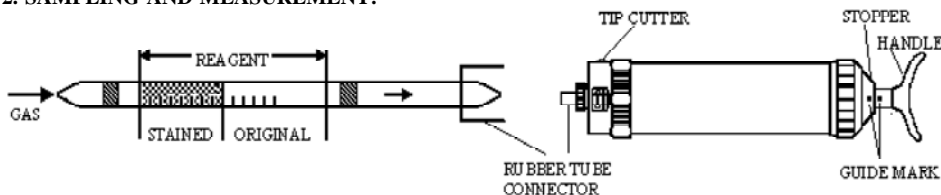

Fig.1
- ① Break both ends of detector tube.
- ② Insert the detector tube into aspirating pump securely as shown in Fig.1. (Arrow mark shall point to the pump.)
- ③ Align the guide marks on the shaft and stopper of the aspirating pump.
- ④ Pull the pump handle at full stroke until it locks and wait for 1.5 minutes or until the completion of sampling is confirmed with the flow indicator of the pump (See descriptions about the flow indicator in the instructions of the pump).
- ⑤ Push the handle without removing the detector tube from the inlet, and air in the pump will be discharged perfectly. Then repeat the step ④ twice.
- ⑥ On completion of sampling, read the scale at the maximum point of the stained layer.